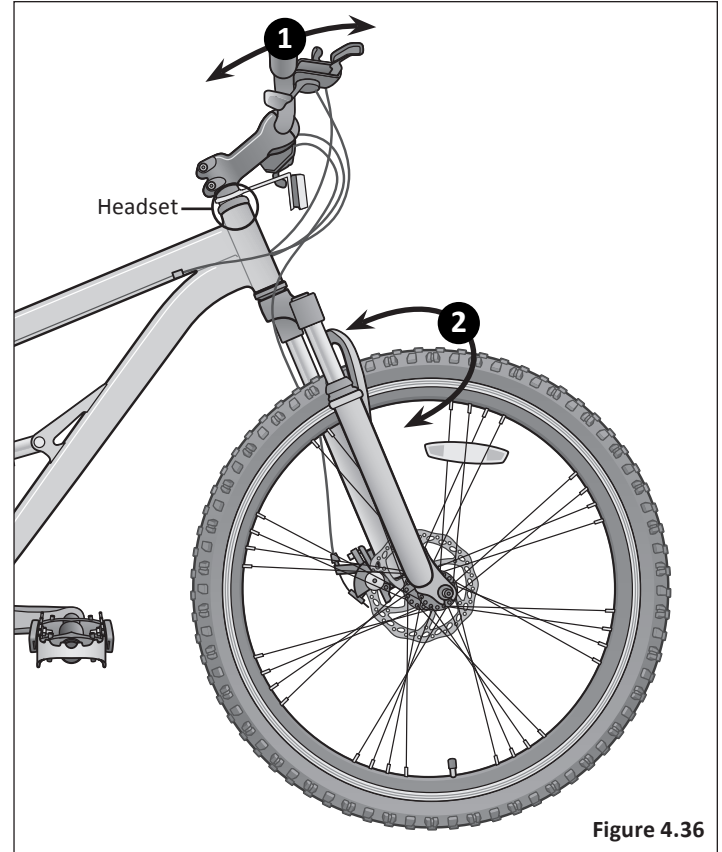

Figure 4.36
- 1 Shakiness:** Apply the front brake and push the handlebars back and forth, front to back or if the bicycle is on a workstand and the front wheel removed, push and pull on the forks. If you feel a knocking sensation or "clunk" it means the headset is too loose. **Important!** Use care with suspension forks, because the legs may have play in sliders. Grab upper portion of fork. **Figure 4.36**
Important! Do not disassemble the headset or lose any parts. Be sure the end of the fork is on the ground or being held with your free hand, because once you loosen the top cap the fork assembly may fall out of the frame. **Figure 4.36**